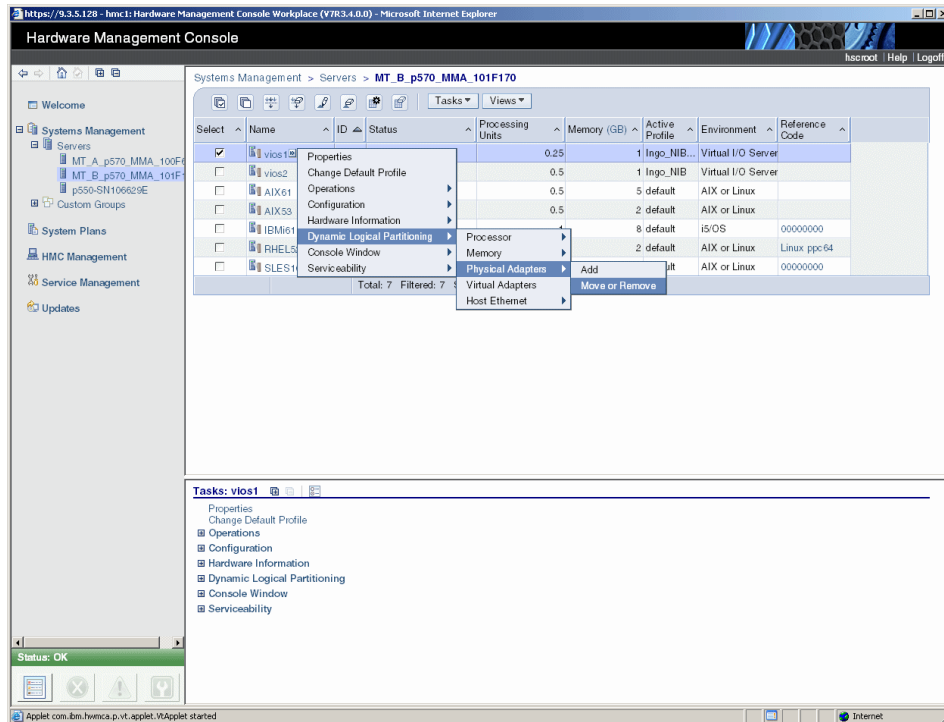

Figure 6-21 Remove physical adapter operation
- On the HMC select the partition to remove the adapter from and choose **Dynamic Logical Partitioning** → **Physical Adapters** → **Move or Remove** (Figure 6-21).